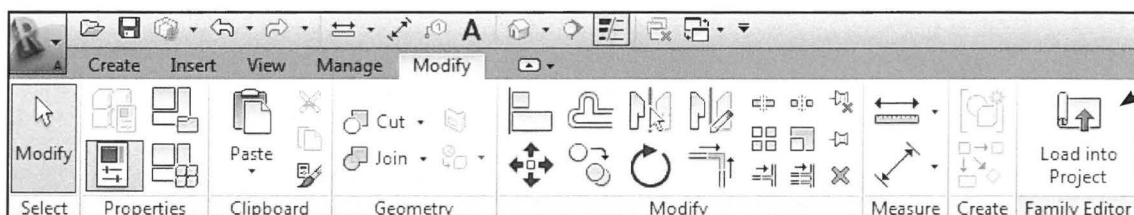

Fig. 16.28. Tryk *Load into Project*.
- Tryk *Load into Project* (Fig. 16.28).